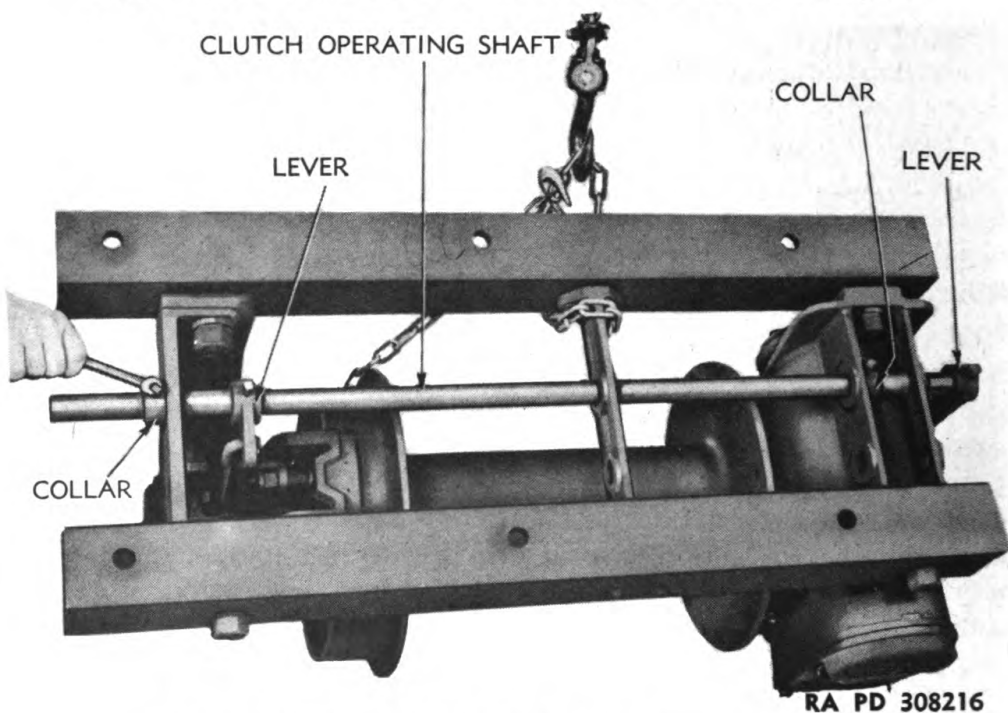

Figure 114 — Loosening Set Screw in Collar
b. Remove Clutch Operating Shaft Assembly (fig. 114). Turn winch on side with aid of chain hoist. Loosen the three set screws in the short operating lever and the two spacer collars on the clutch operating shaft. Then have one man pull out on gear case end of shaft while another taps clutch lever off opposite end of shaft. Pull shaft on out and remove collars from shaft.